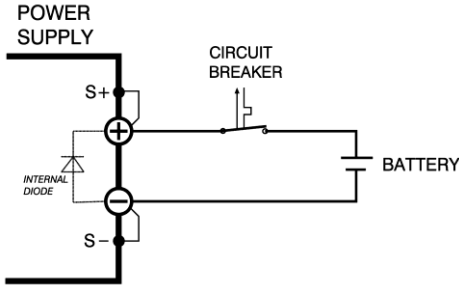

Figure 7.14: Charging battery with a circuit breaker in series to protect the internal diode.
- Use a Circuit Breaker in series in order to protect the power supply from accidental reverse connection, see Figure 7.14.